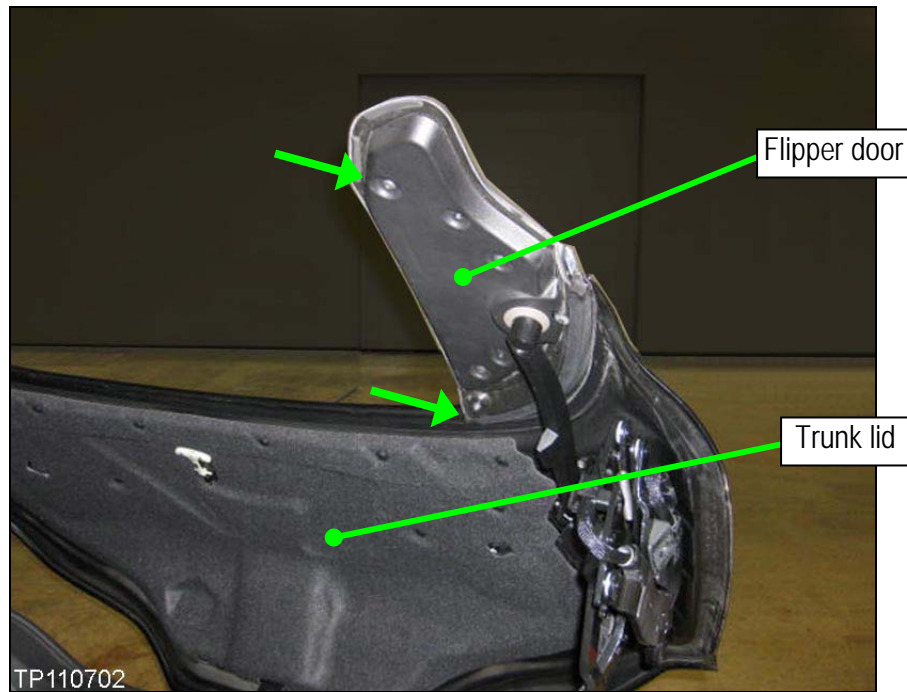

Figure 32
35. Proceed to open the hard top until the trunk lid is in the position shown in Figure 32.
36. If felt cloth is found under the flipper door where pointed in Figure 32, skip to Step 38.
45. Close the trunk lid, and then start opening the hard top until the trunk is opened as shown in Figure 32 on page 17, and 46 below.